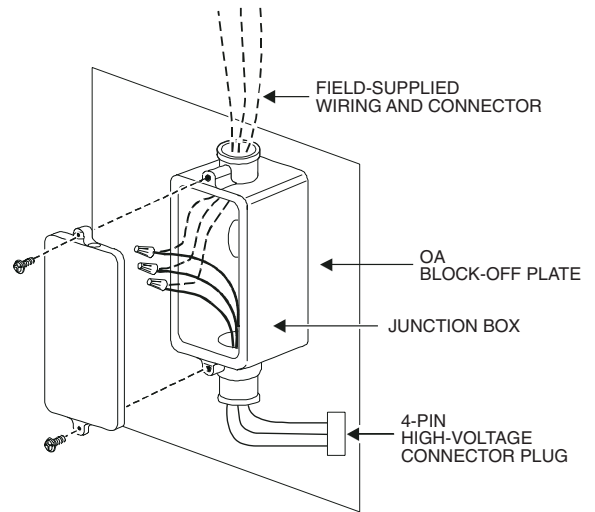

Fig. 28 — Junction Box Termination
10. Locate the OA block-off plate with the 2 x 4 in. junction box attached. (See Fig. 28.)
12. Install the 4-pin connector from the junction box through the hole in the OA block-off plate. (See Fig. 28 and 29.)